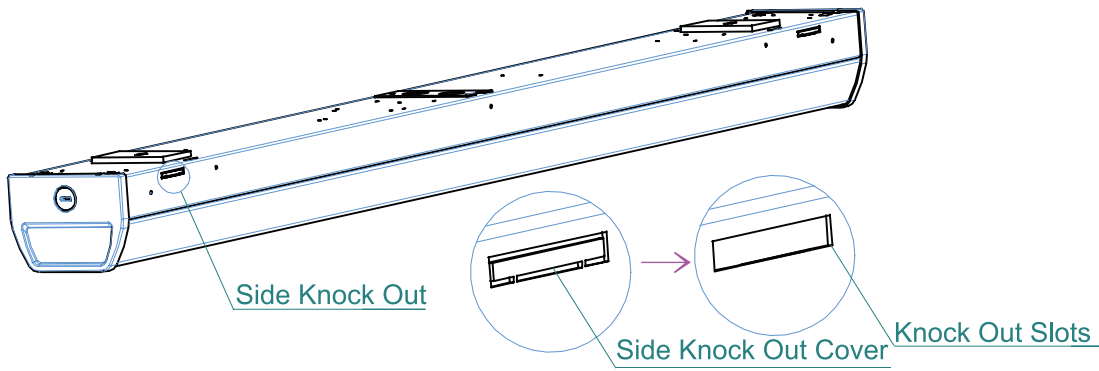

Figure 2
2. Fix the Hanger Brackets (2) to ceiling or wall by appropriate fastener (customer supplied).
3. Push Side Knock Out Cover (4) inwards to open the side Knock Out Slots (4). See Figure 2.